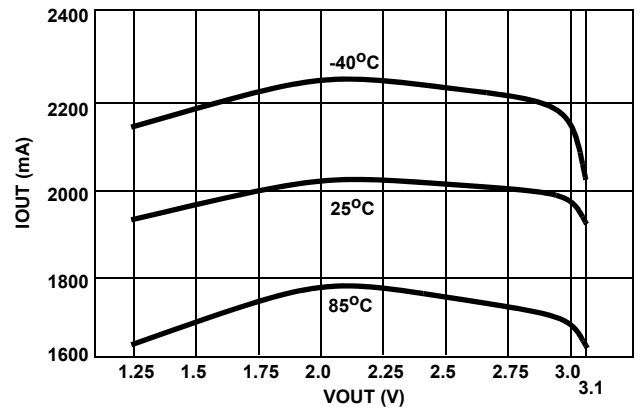

FIGURE 5. CURRENT REGULATION vs VOUT (VIN = 3.3V)
The ISL6121 has integrated current sensing on the power MOSFET that allows for rapid control of OC events. Once an OC is detected the ISL6121 goes into its Current Regulation (CR) control mode. The ISL6121 CR level is set to a nominal 2A. This current regulation is  $\pm 20\%$  over the full operating temperature and voltage bias range. See Figures 5 and 6 for illustrative curves.